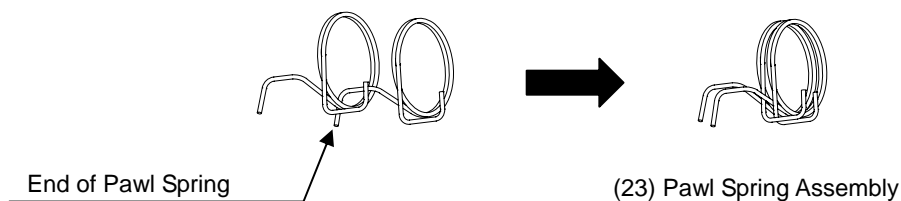

Figure 5-12 Pawl Spring Assembly
- 4) Put the end of one pawl spring through the coiled part of the other pawl spring and fit each other into (23) Pawl Spring Assembly as shown in Figure 5-12.